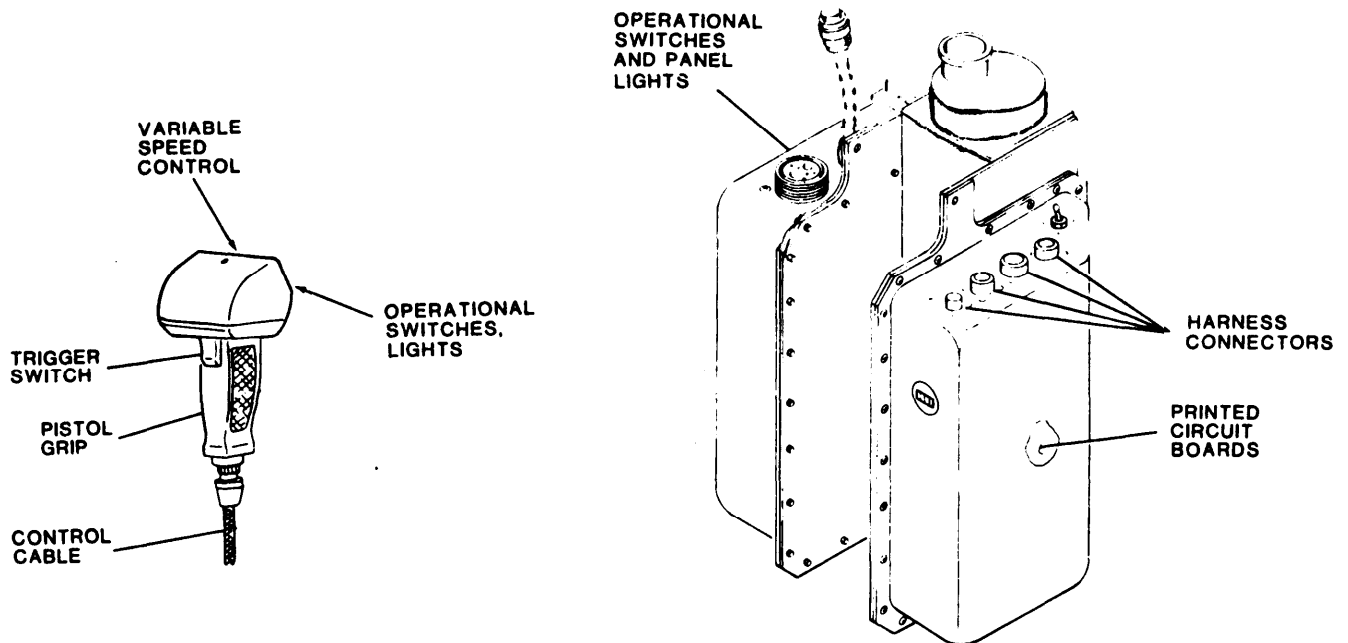

Figure 1-6. Control Panel and Pendant Assemblies
a. The control panel assembly (Figure 1-6) provides electrical interface through the hoist. Electrical connectors provide input (through harness assemblies) to the control pendant, limit switch drive assembly, boom position motor, boom head assembly and winch motor.
a. The control pendant assembly (Figure 1-6) is a pistol-grip control that allows remote operation of the rescue hoist. BOOM IN/OUT and CABLE UP/DOWN switches, a variable speed control, and a trigger operated ON/OFF switch are mounted on the pendant.